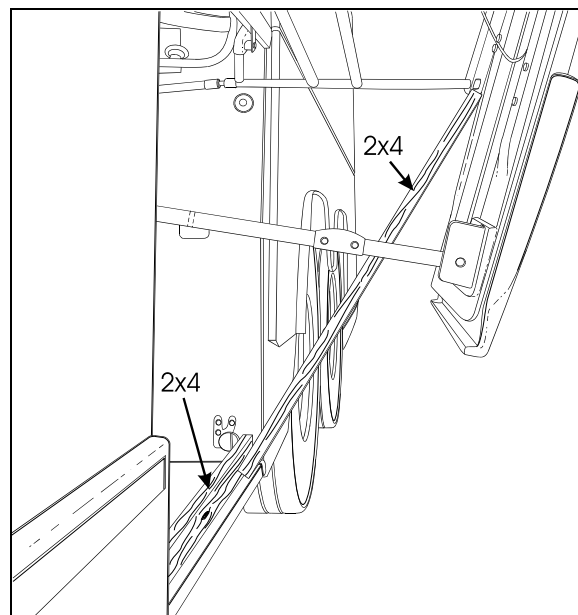

FIGURE 55: PANTOGRAPH ADJUSTMENT
3. Install another piece of 2x4 between the first piece and the bottom of the pivot of the lowest (or shortest) pantograph arm, (Figure 55).